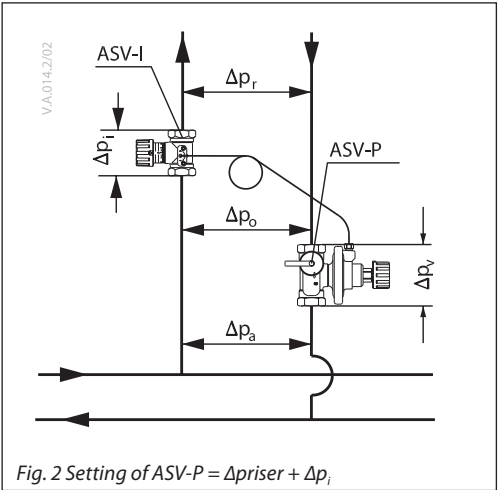

Fig. 2 Setting of ASV-P =  $\Delta p_{riser} + \Delta p_i$
- partner valve inside control loop (Fig. 2). Offers flow limitation on the riser however part of the controlled pressure range is used by pressure drop on partner valve ( $\Delta p_i$ ). It is recommended when flow limitation on each terminal units is not possible.